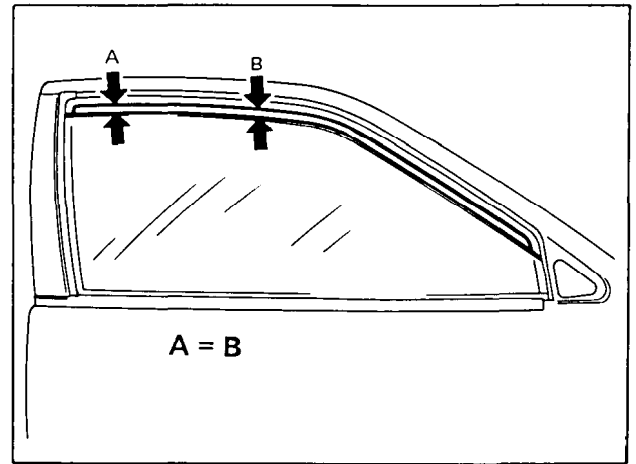

Fig. 9-7
2) Adjust equalizer of window regulator so that measurements A and B in Fig. 9-7 are equal to each other.